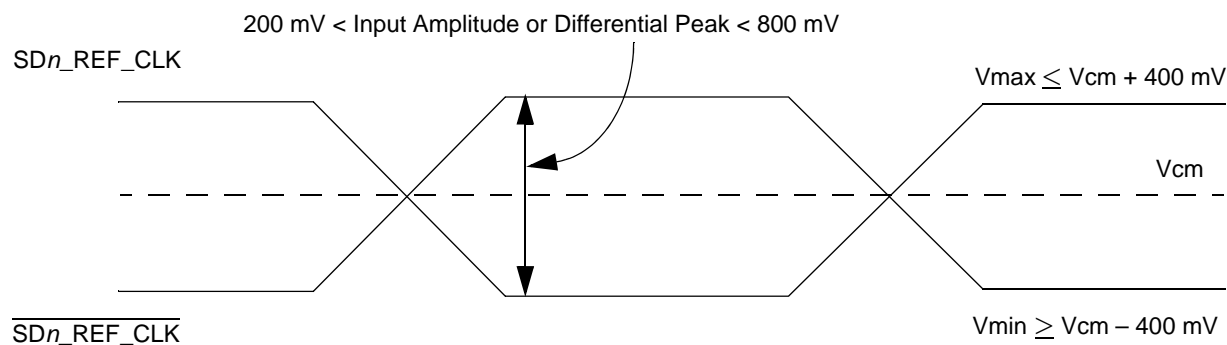

Figure 46. Differential Reference Clock Input DC Requirements (External AC-Coupled)
- For **external AC-coupled** connection, there is no common mode voltage requirement for the clock driver. Because the external AC-coupling capacitor blocks the DC level, the clock driver and the SerDes reference clock receiver operate in different command mode voltages. The SerDes reference clock receiver in this connection scheme has its common mode voltage set to SGND_SRDS_n. Each signal wire of the differential inputs is allowed to swing below and above the command mode voltage (SGND_SRDS_n). Figure 46 shows the SerDes reference clock input requirement for AC-coupled connection scheme.